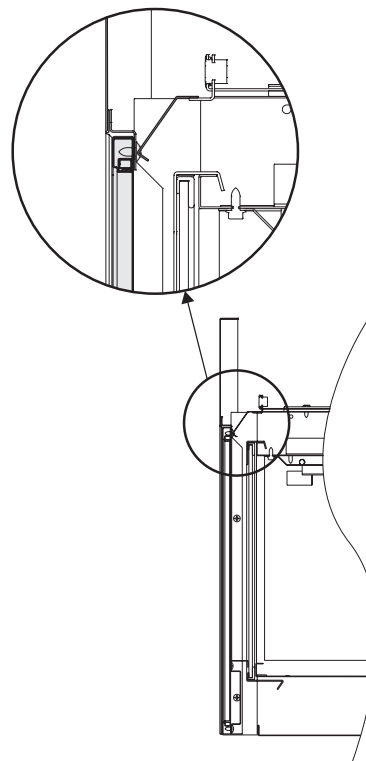

Figure 23
3. Once the lower return flange on the back of the barrier is placed against the glass door frame, gently lift the barrier screen up about 3/8 of an inch, push inward on the barrier, then release and lock the lower return flange between the door glass and lower door frame. See Figure 23.